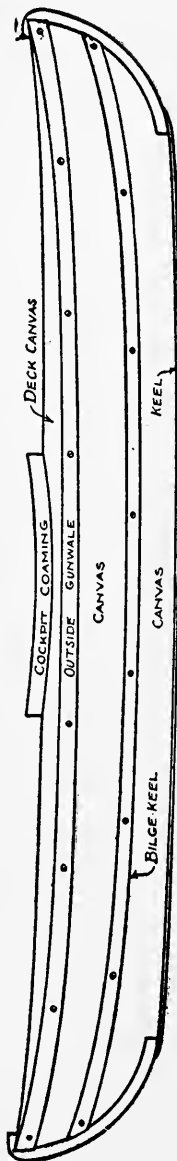

FIG. 212.—The Canvas Canoe completed.
**The Keel.**—So cut a lattice-strip eight feet in length, and screw it along the bottom of the keelson (see Fig. 212).
**The Bilge-keels** are lattice-strips fastened along the sides of the canoe as a protection to the canvas, and should be attached directly over the ribbands. One of these on the centre ribband of each side will be sufficient (see Fig. 212).
round-headed screws, after which they should be painted. Figure 212 shows the canoe completed.